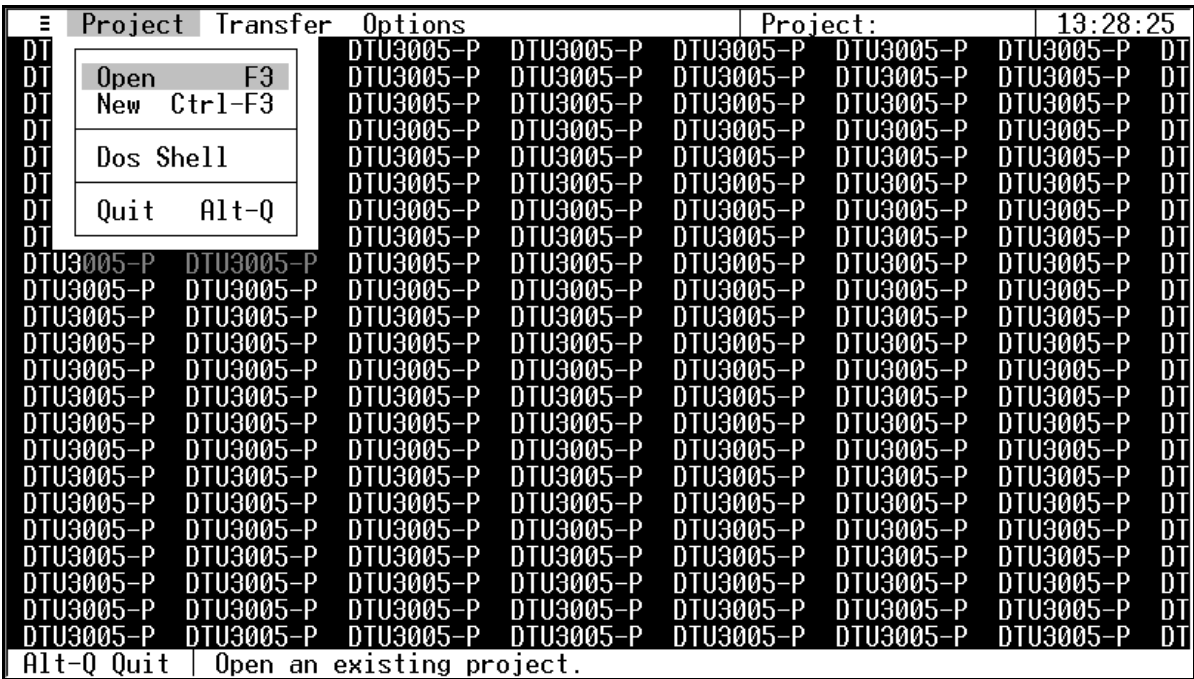

Figure 3.2 Project Menu
When you first start the DTU3005P Editor program, and no project file is loaded, the following selections are available on the **Project** menu (see **Figure 3.2**):
1. Select the **Project** menu with the mouse or use the arrow keys to select **Project**, and then press **Enter**. The **Project** menu is displayed (see **Figure 3.2**).